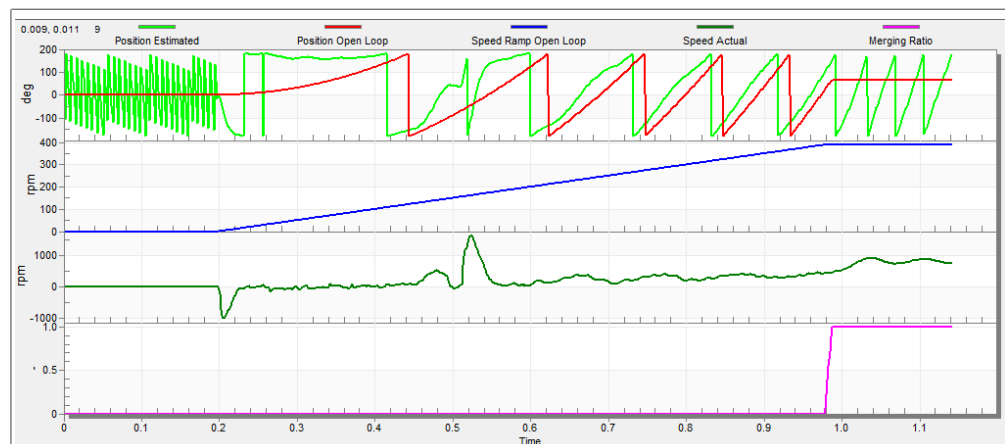

Figure 25. Motor startup
1. The start-up process can be tuned by a set of parameters located in the “Sensorless” tab. Two of them (ramp increment and current) are accessible in both tuning modes. The start-up tuning can be processed in all control modes besides the scalar control. Setting the optimal values results in a proper motor startup. An example start-up state of low-dynamic drives (fans, pumps) is shown in Figure 25.